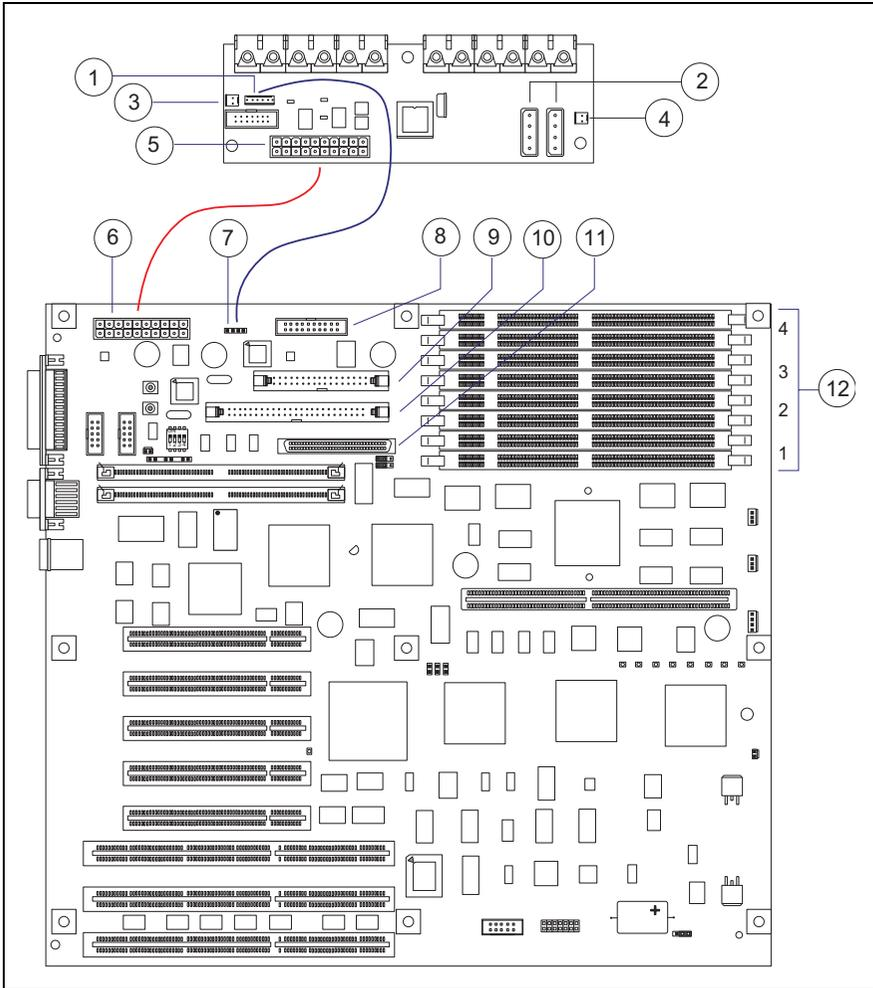

Figure 57: Motherboard and connection panel of the power supply unit
1. Establish the connection for the I²C bus between the power supply unit and the motherboard (I²C connector (1) and I²C connector (7) in figure 57).
2. Establish the connection for the power supply between the power supply unit and the motherboard (ATX connector (5) and ATX connector (6) in figure 57).
3. Establish the connection for the removable media drives between the power supply unit and the power supply connectors of the drives (connector (2) in figure 57).
4. Establish the connection for the hot-replacement drives between the power supply unit and the power supply connectors of the hot-replacement drives (connector (2) in figure 57).
5. Establish the connection for the safety switches between the power supply unit and the right and left safety switches (connector (3) and connector (4) in figure 57).
The location of the memory banks on the motherboard of the RM300 E is shown in figure 57 on page TD-130.